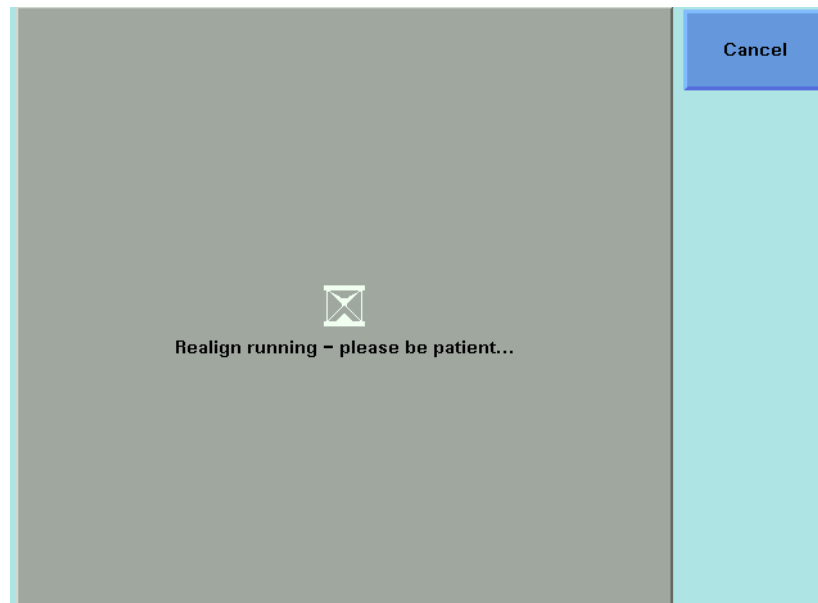

Figure 81 Realign Screen
- 2 Move to *<Realign>* and press [OK]. You will see the screen in Figure 81.